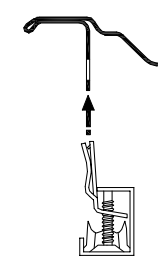

Fig 1
9. Push the fixing clip onto the clip rail of the sink so that the flange of the clip locks into the hole in the clip rail (fig. 1).